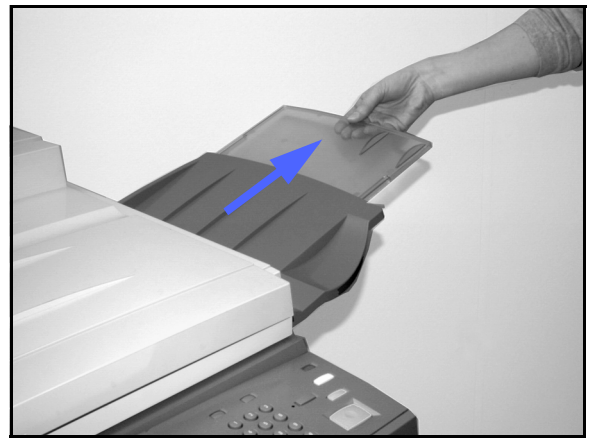

Figure 5: Extending the DADF Output Tray
- 4 Extend the DADF Output Tray to accommodate the size of the documents, as illustrated in Figure 5.